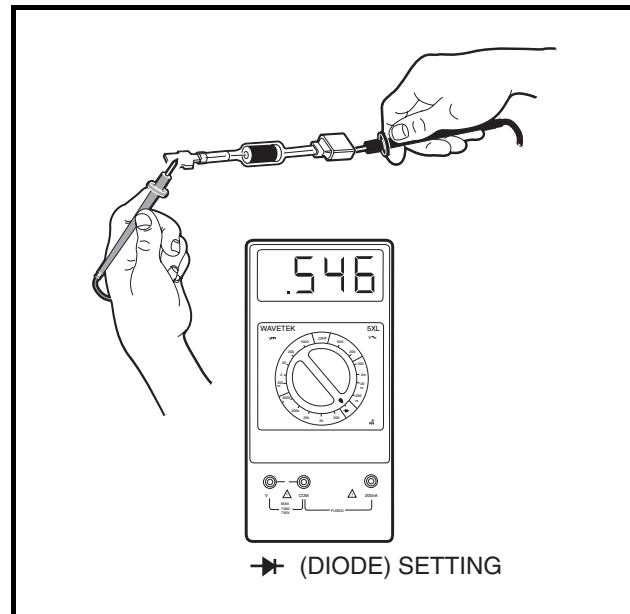

Figure 11-35 Blocking Diode Test – Probes Reversed
- 7.4. Place the red (–) probe of the multimeter on the terminal on the opposite side of the white band indicator on the diode (**Figure 11-35, Page 11-34**). Place the black (+) probe on the terminal on the same side of the diode as the white band. The multimeter should indicate approximately 546 mV. If the reading is not approximately 546 mV, replace the blocking diode.